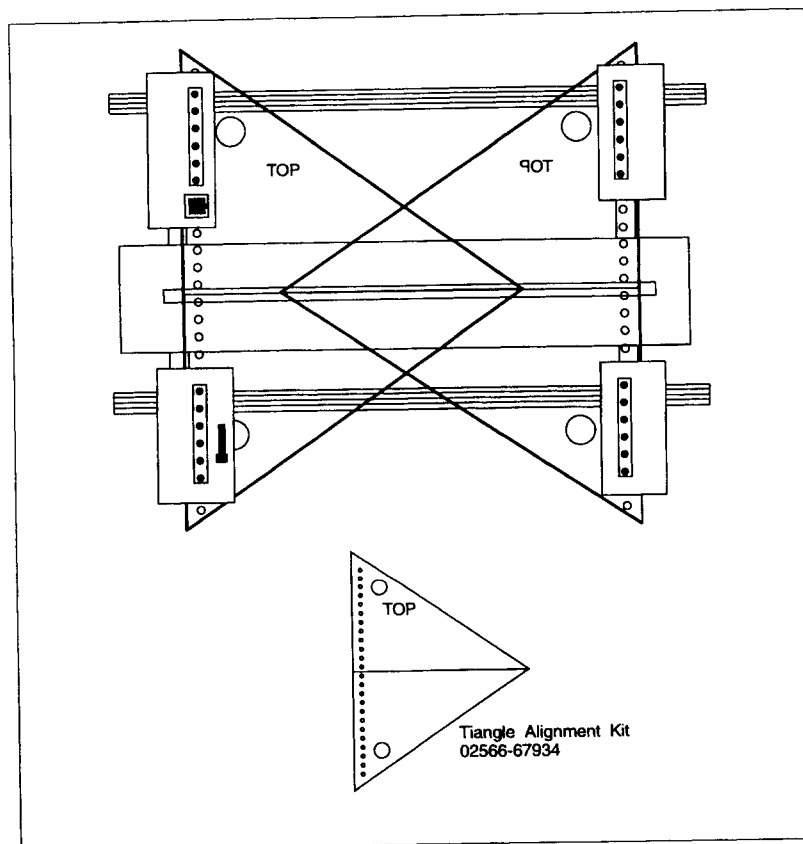

Figure 5-9. Installing the Traingle Tools
- d. Place a Mylar Triangle Tool (with "TOP" up) in the left set of tractors (see Figure 5-9) and the other triangle (with "TOP" up) in the right set of tractors.
- a. Insert the mylar triangle tools into both sets of tractors (see Figure 5-9).